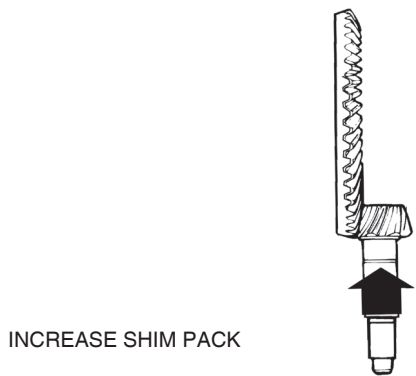

Figure 5.55
- To correct a high-contact pattern: Increase the thickness of the shim pack. When you increase the thickness of the shim pack, the drive pinion will move toward the ring gear. Figure 5.55.